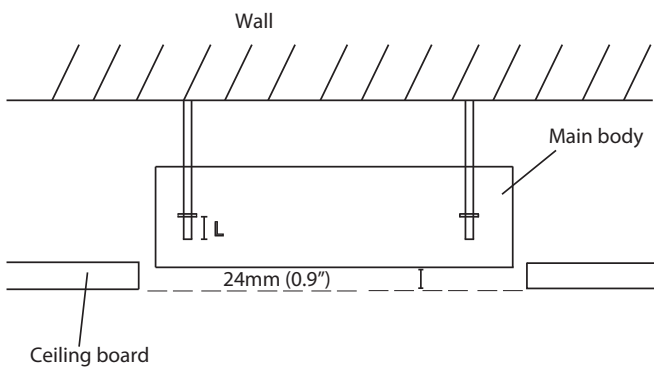

Fig. 4.6
**NOTE:** The bottom of the unit should be 24mm (0.9") higher than the ceiling board. Generally, L (indicated in Fig. 4.6) should be half the length of the suspension bolt or long enough to prevent the nuts from coming off.